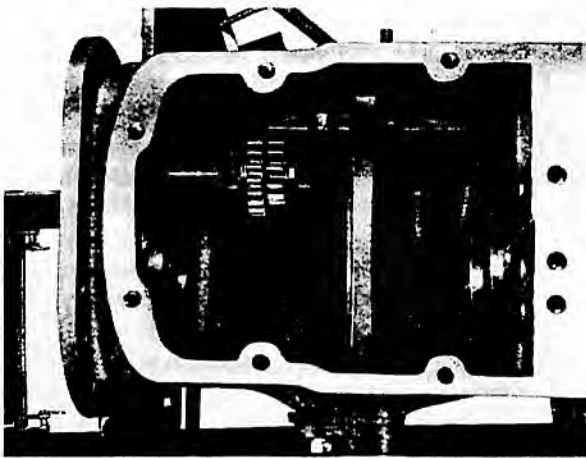

FIG. 16
13. Remove snap ring from rear of countershaft and drive shaft out forwards. Remove high speed and intermediate speed pinions. (See Fig. 16).